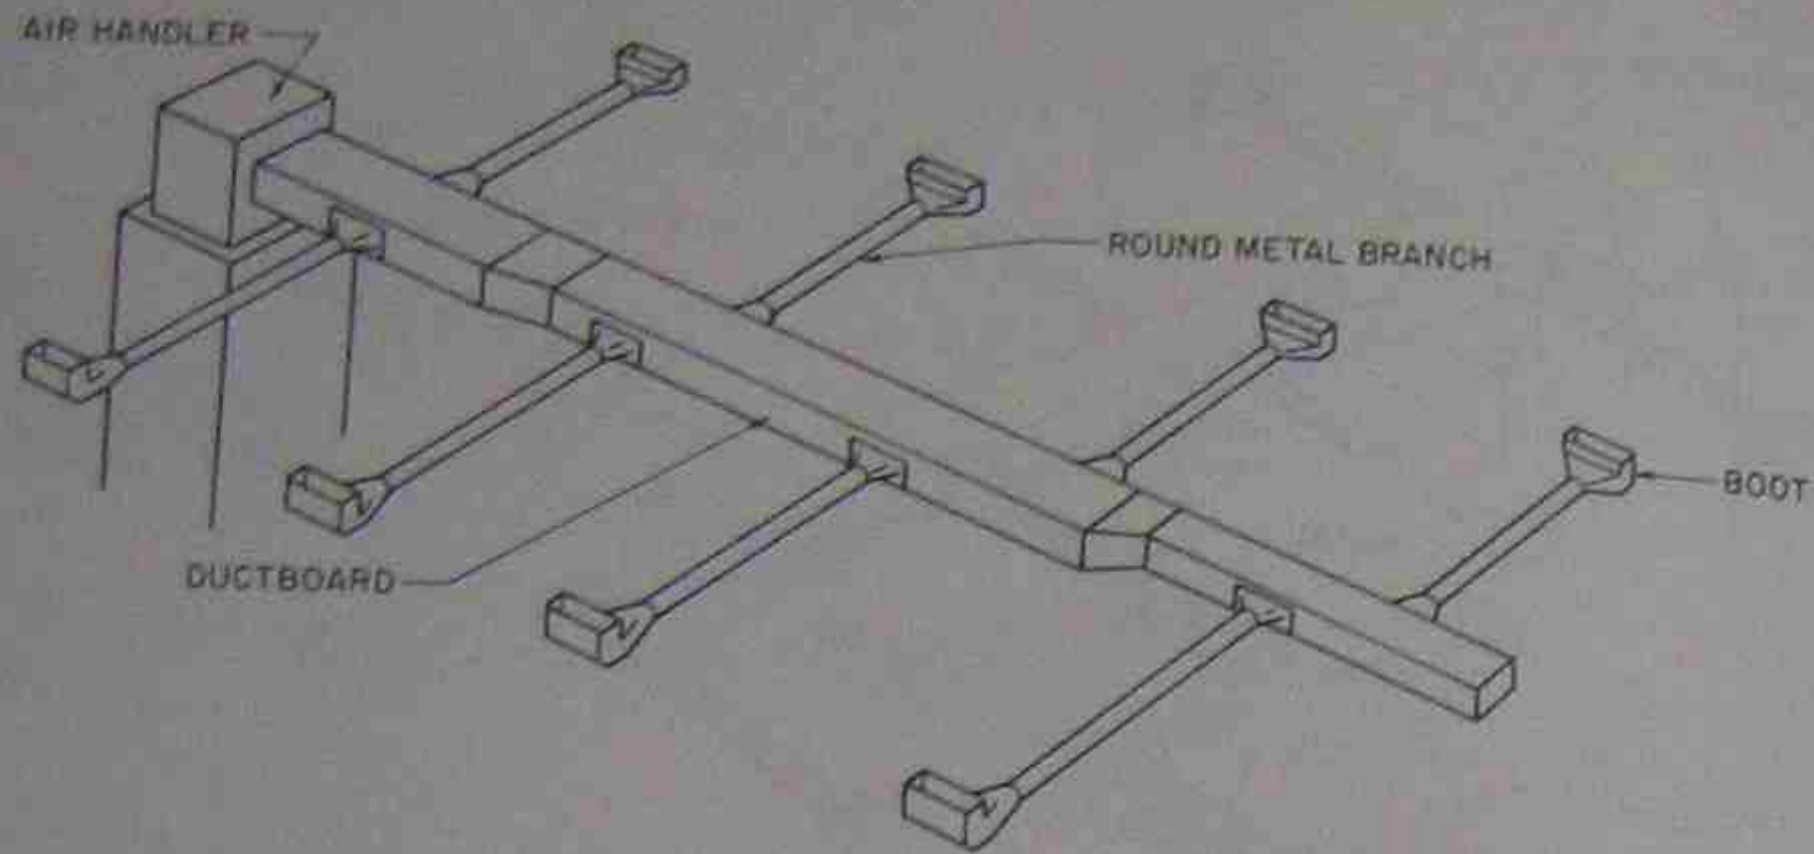

Figure 39-39. Ductboard trunk and round metal branches.
6. Ductboard trunk lines with round metal branches, Figure 39-39.